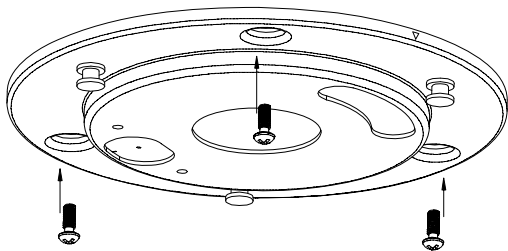

Figure 1
STEP 1: Secure Dome's Adapter in the desired ceiling position with the 3 fixed screws as shown in Figure 1.